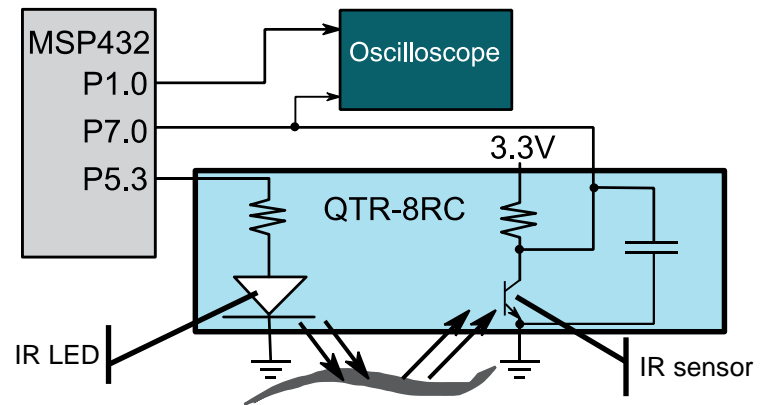
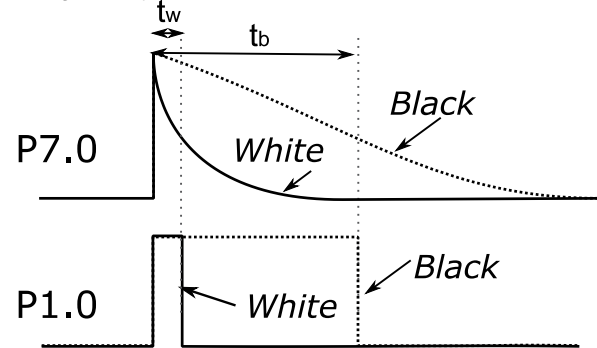

Figure 7. Hardware configuration for one sensor.
Figure 8. Conversion of light to voltage, and voltage to binary
We will use Port 5, bit 3 as an output, connected to IR pin of the line sensor. P5.3 turns on the infrared (IR) LED, P7.0 is connected to one of the sensor pins of the QTR-8RC, and P1.0 is set as a digital output (used in this section for testing). See Figure 7. In particular, the goal of this section is to observe how the reflectance of the given surface affects the voltage on P7.0, and how the microcontroller converts the voltage on P7.0 into binary data depending on the color of the reflective surface.
Note: Basically, what is happening is the 10us output pulse on P7.0 charges a capacitor on the QTR-8RC board (see Figure 7). Once the microcontroller sets the pin to input, the reflected light on the light-sensitive transistor discharges the capacitor. The white reflective surface has more light on the base of the transistor, and conducts more current through the collector-emitter. This current discharges the capacitor. Notice the white surface discharges faster and P7.0 falls more quickly. Using the rise of P7.0 as a time reference of 0, measure the time P1.0 falls for the white and black surfaces, see Figure 8. For a white surface, measure the time t_w . For a black surface, measure the time t_b .